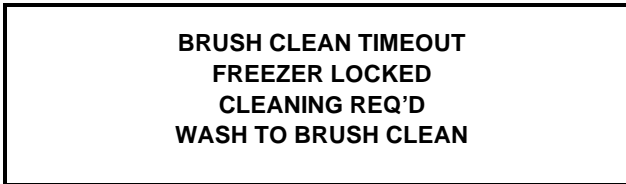

Figure 31
1. The brush clean timer has elapsed (maximum setting of 14 days). (See Figure 31.)